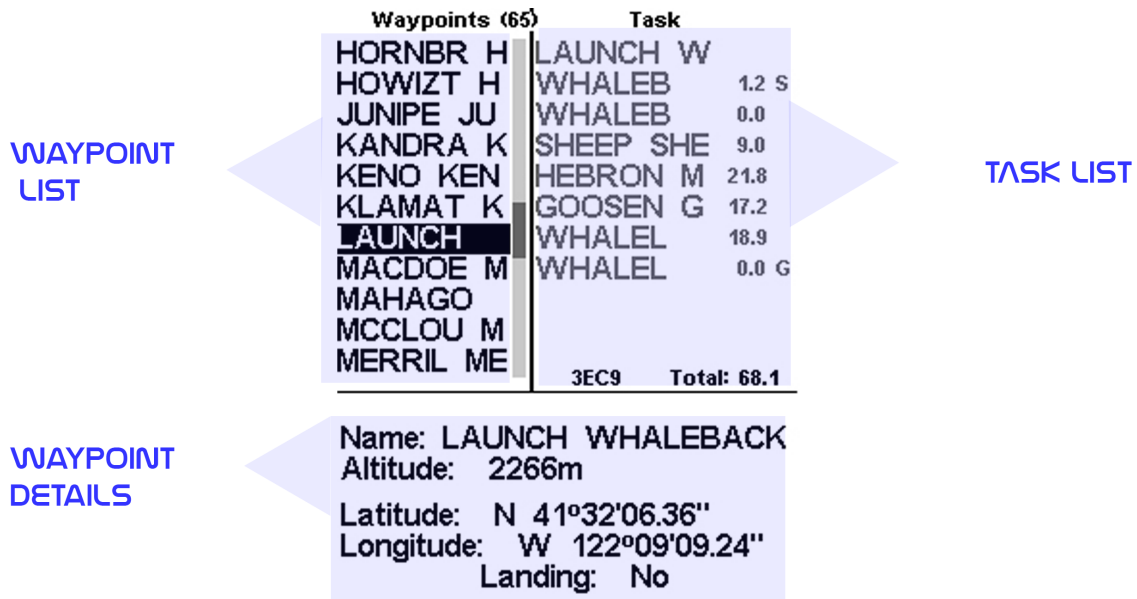

Figure 4.2: Waypoints and TaskScreen
The Waypoints/Taskpage allows the user to manage waypoints, and define a route/task. As shown in Figure 4.2, the page is divided into 3 areas, namely the waypoint list (WL); Tasklist (TK) and selected waypoint details/options list (DO). The DO area can change according to which submenu you are in. Specifically, it can show the selected waypoint data, or a list with possible actions for the waypoints. Entering the page activates the WL area. At the top of the page next to the title Waypoints, is the total number of Waypoints stored in the NAV SD instrument¹. The first waypoint on the list appears highlighted, and the corresponding data of the selected waypoint is shown in the DO area. As the cursor is moved to a different waypoint so the data changes matching the newly selected waypoint. If the waypoints list is empty a list of available actions is shown in the DO area. Since no waypoint exists only the *Insert new Waypoint* action is available.